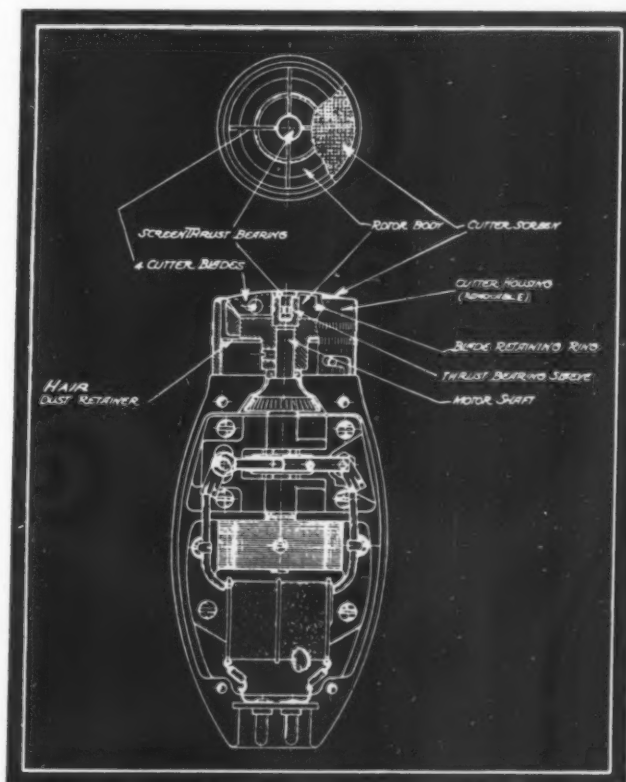

Fig. 1—Blades of dry shaver are spun against perforated steel disk by high speed, slotted flywheel
**S**OMETHING decidedly out of the ordinary both in design and in action is the electrically driven dry shaver shown diagrammatically by Fig. 1. This shaver, which is of rotary type and in appearance somewhat resembles a salt shaker, has been developed during the past two years by F. E. Moskovics, well known mechanical engineer and former president of the Stutz Motor Car Co.